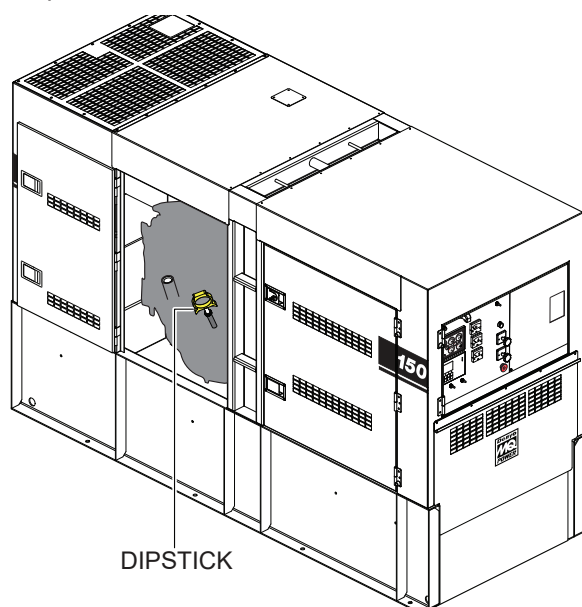

Figure 34. Engine Oil Dipstick Location
2. Remove the dipstick from its holder (Figure 34) and wipe it clean.